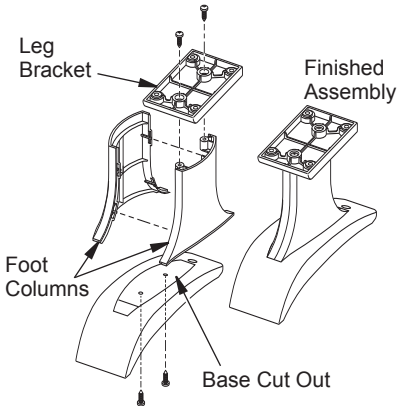

Figure 12 - Assembling Base Feet
1. Snap the left and right foot columns together (see Figure 12).
2. Place the column assembly in the center of the base cut out. Fasten column assembly by using two Phillips head self tapping screws (provided) (see Figure 12).
3. Place leg bracket on the top of column assembly and fasten it by using two Phillips head self tapping screws (provided) (see Figure 12).